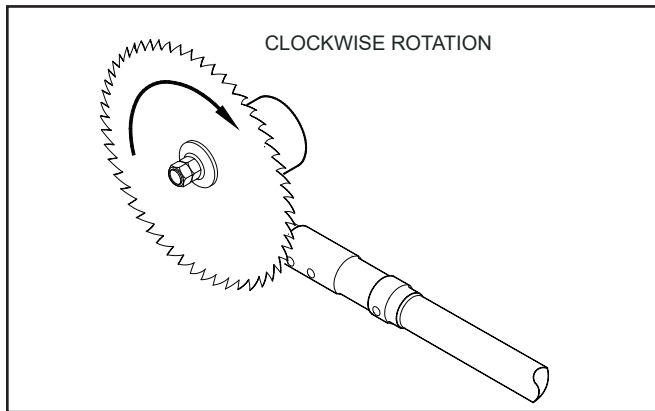

Figure 2. Correct Rotation Direction
2. Install the blade over the motor shaft and onto the fixed collar so that the points of the teeth on the blade are facing clockwise as viewed from the front of the motor (see Figure 2).